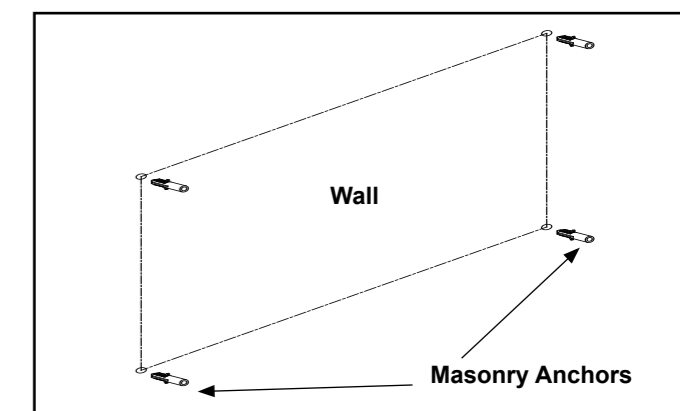

Figure 4.2 Masonry Anchor Placement
- Attach the bracket to the masonry anchors with four 5 x 40 screws. See Figure 4.2.